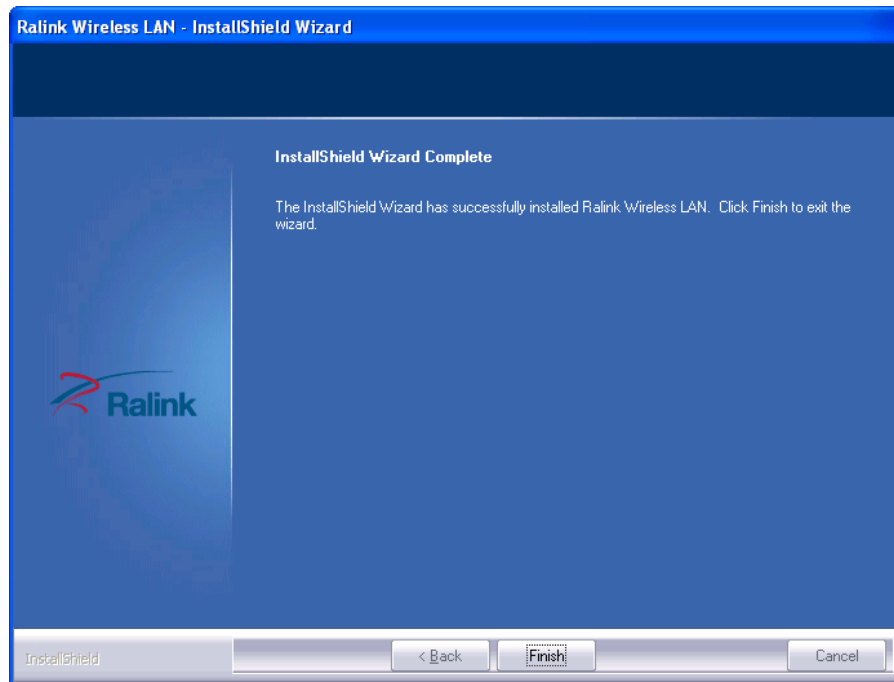

Figure 8-39: Installation Complete
Step 13: When the driver installation is complete, the screen in **Figure 8-39** appears.